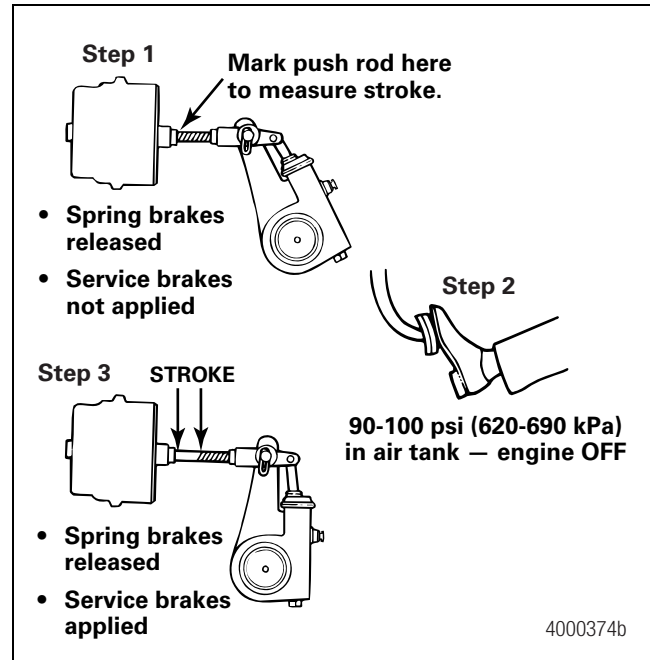

Figure 7.25
3. With the brakes released, mark the push rod where it exits the chamber. Measure and record the distance. Have another person apply and hold the brakes on full application. Figure 7.25. Hold the ruler parallel to the push rod and measure as carefully as possible. A measurement error can affect CVSA re-adjustment limits. CVSA states that "any brake 1/4-inch or more past the re-adjustment limit, or any two brakes less than 1/4-inch beyond the re-adjustment limit, will be cause for rejection."
4. Measure the push rod travel or adjusted chamber stroke from where the push rod exits the brake chamber to your mark on the push rod. Measure and record the distance. Figure 7.25.